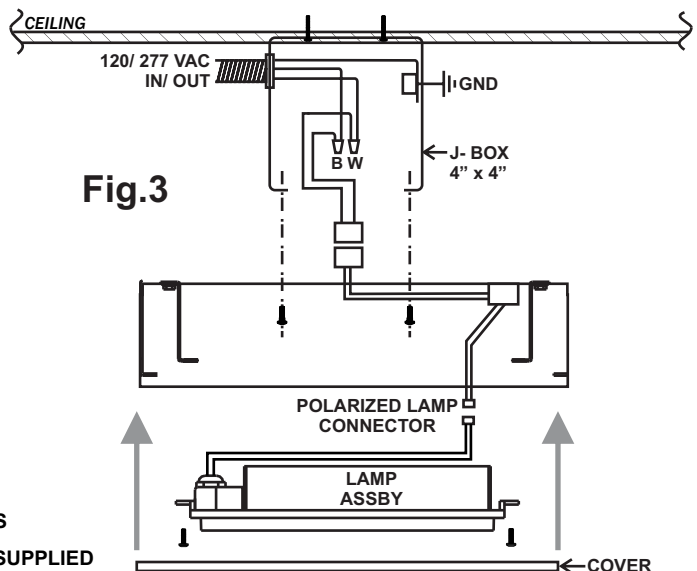

Fig.3
1. See Fig 3. Install standard 4" J-box centrally above installation point as shown and secure to ceiling using appropriate screw anchors.